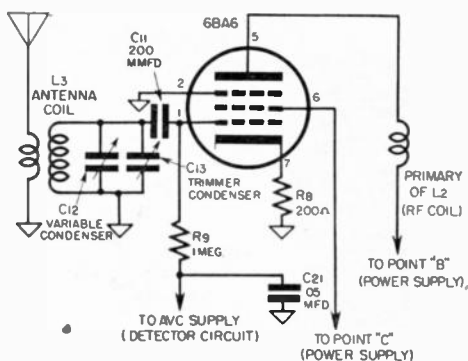

Fig. 8-32. R. F. amplifier circuit.
i) *R.F. Amplifier Circuit.* See Figure 8-32.